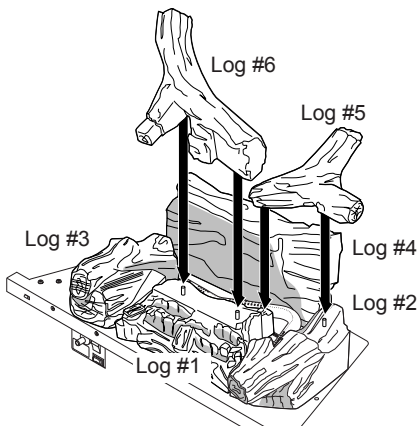

Figure 34 - Installing Log #5 and Log #6
5. Locate hole on bottom of log #5 and place over pin on log #2. Log #5 will rest on back of log #1 (ember bed). See Figure 34.
6. Place log #6 onto two pins on log #1 (ember bed) and rest back of log #6 on back log #4 (see Figure 34).